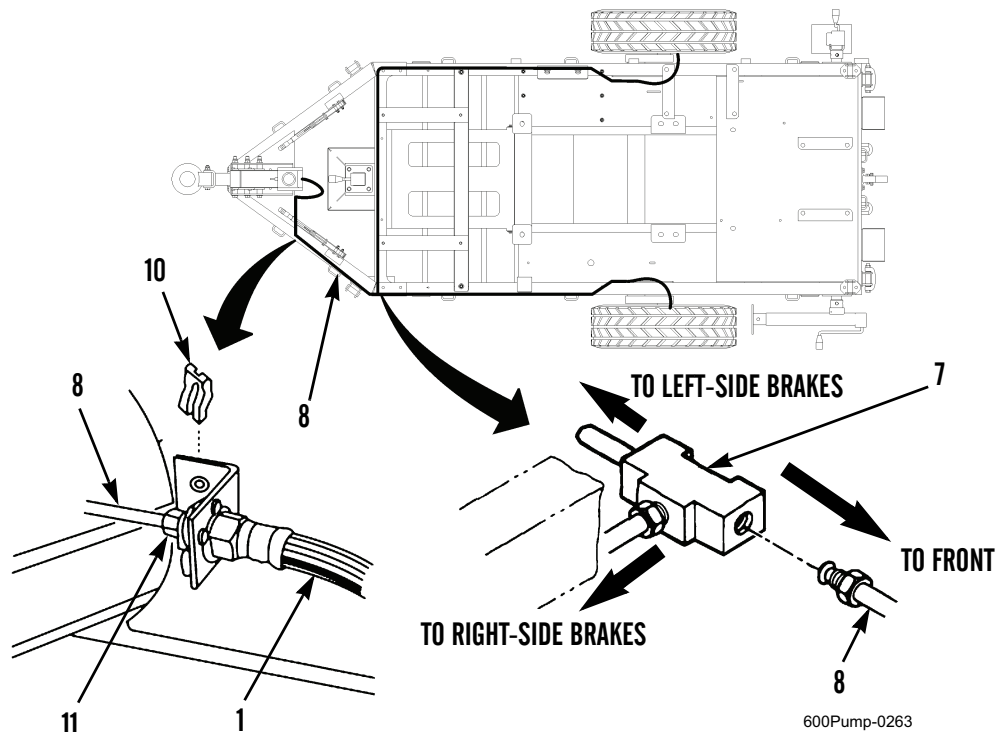

Figure 3. Front Solid Brake Line.
1. Remove fuel tank to access tee fitting (Figure 3, Item 7) on left side of trailer frame (WP 0099).
2. Place a suitable container under front flex brake line (Figure 3, Item 1) and front solid brake line (Figure 3, Item 8).
3. Loosen nut (Figure 3, Item 11), remove frame bracket clip (Figure 3, Item 10), and disconnect front flex brake line (Figure 3, Item 1) from front solid brake line (Figure 3, Item 8). Allow brake fluid to drain.
4. Disconnect front solid brake line (Figure 3, Item 8) from tee fitting (Figure 3, Item 7) and allow brake fluid to drain.
5. Remove clamps and release front solid brake line (Figure 3, Item 8) from trailer frame.
1. Connect front solid brake line (Figure 3, Item 8) to tee fitting (Figure 3, Item 7) and tighten flare fitting.
2. Connect front flex brake line (Figure 3, Item 1) to front solid brake line (Figure 3, Item 8) and tighten nut (Figure 3, Item 11). Install frame bracket clip (Figure 3, Item 10).
3. Secure front solid brake line (Figure 3, Item 8) to trailer frame with clamps.